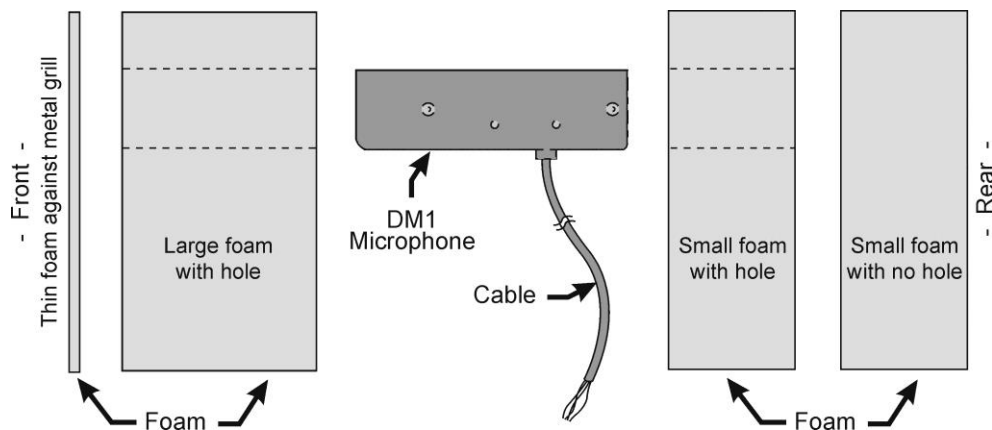

Figure 2. Sequence of DM1 and foam inserts in speaker post or menu board
Typical DM1 Microphone installation involves mounting it with the four enclosed pre-cut foam pieces inside the upper compartment of the SPP2 speaker post. The foam will fit many types of speaker posts and menu boards. If it must be mounted in a small area, compress the foam when installing it and closing the speaker post or menu board. In larger areas, additional foam (not supplied) can be added. To install the DM1 in a typical SPP2 speaker post, refer to Figures 2 and 4, and follow these instructions.
- Place the DM1 Microphone into the holes on the large and small pieces of foam with holes, in the positions shown in Figures 2 and 4.